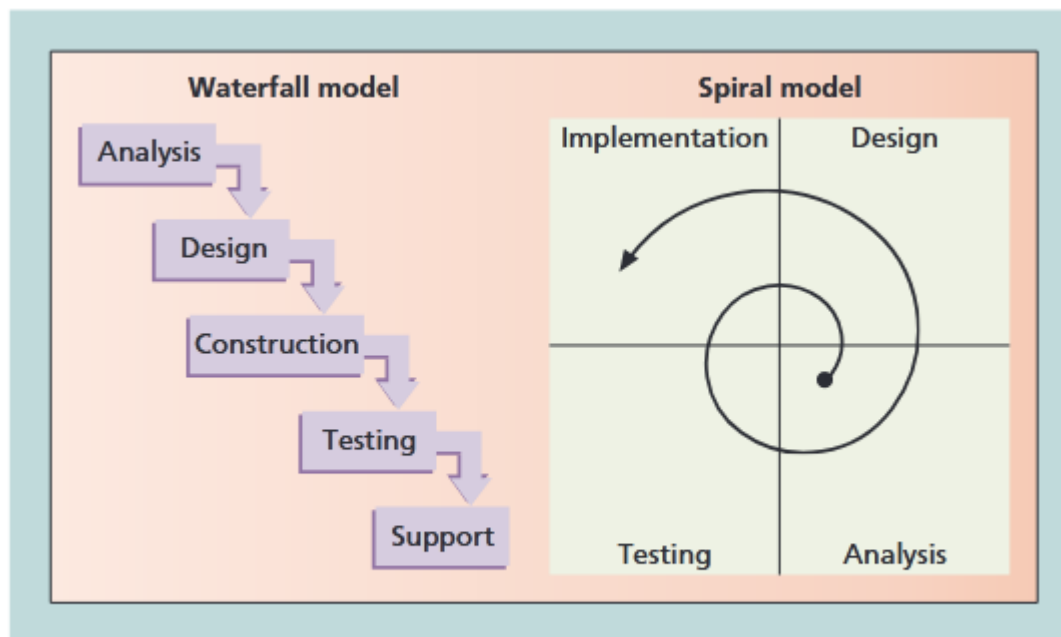

FIGURE 2-4 Waterfall and spiral life cycle models
- The spiral life cycle model was developed based on refinements of the water- fall model as applied to large government software projects. It recognizes the fact that most software is developed using an iterative or spiral approach rather than a linear approach. The project team is open to changes and revisions later in the project life cycle, and returns to the requirements phase to more carefully clarify and design the revisions. This approach is suitable for projects in which changes can be incorporated with reasonable cost increases or with acceptable time delays. Figure 2-4 illustrates the differences between the waterfall and spiral life cycle models.